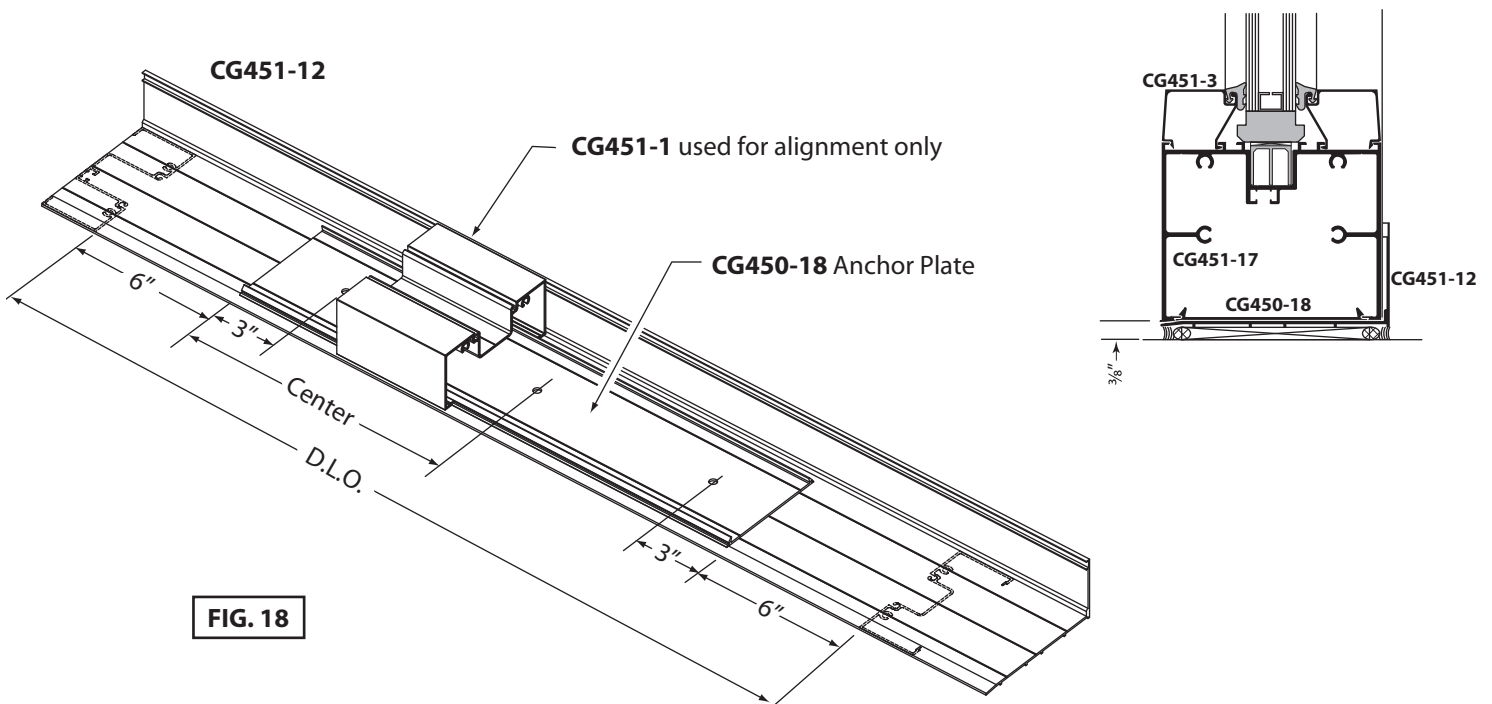

FIG. 18
Cut **CG450-18** flat filler D.L.O. minus (-) 6". Drill (3) 1/4" Ø holes as shown in **FIG. 18**. Use short piece of **CG451-1** to properly align **CG450-18** flat filler to **CG451-12**. Anchor with (3) 1/4" Ø x 2" Tapcon screws and cap seal with sealant. **CG451-17** bulkhead snap fits onto **CG450-18**.